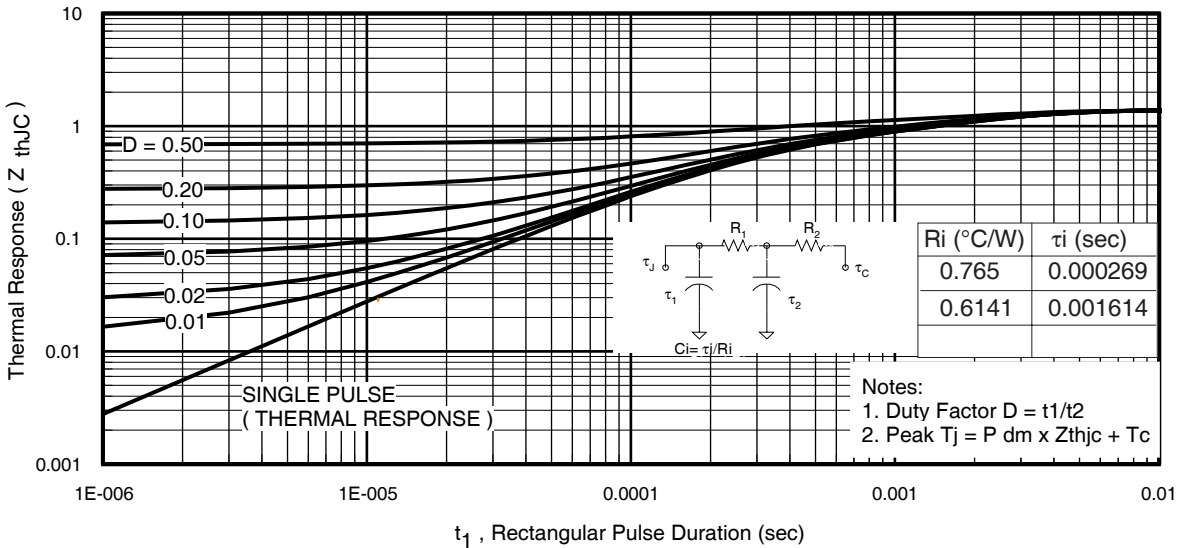
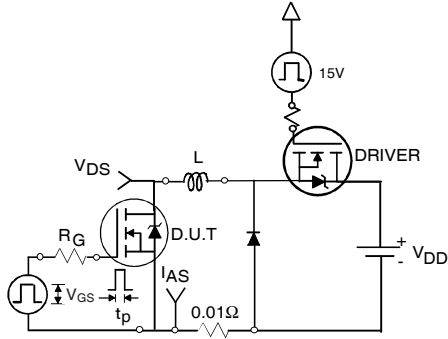

Fig 11. Maximum Effective Transient Thermal Impedance, Junction-to-Case
Fig 12a. Unclamped Inductive Test Circuit
3. Equation below based on circuit and waveforms shown in Figures 12a, 12b.
$Z_{thJC}(D, t_{av})$ = Transient thermal resistance, see figure 11)
- ① Repetitive rating; pulse width limited by max. junction temperature. (See fig. 11).
- ② Limited by T_{Jmax} ; starting $T_J = 25^\circ\text{C}$, $L = 0.089\text{mH}$, $R_G = 25\Omega$, $I_{AS} = 36\text{A}$, $V_{GS} = 10\text{V}$. Part not recommended for use above this value.
- ③ Pulse width $\leq 1.0\text{ms}$; duty cycle $\leq 2\%$.
- ④ C_{OSS} eff. is a fixed capacitance that gives the same charging time as C_{OSS} while V_{DS} is rising from 0 to 80% V_{DSS} .
- ⑤ Limited by T_{Jmax} , see Fig.12a, 12b, 15, 16 for typical repetitive avalanche performance.
- ⑥ This value determined from sample failure population. 100% tested to this value in production.
- ⑦ When mounted on 1" square PCB (FR-4 or G-10 Material). For recommended footprint and soldering techniques refer to application note #AN-994
- ⑧ R_θ is measured at T_J approximately 90°C